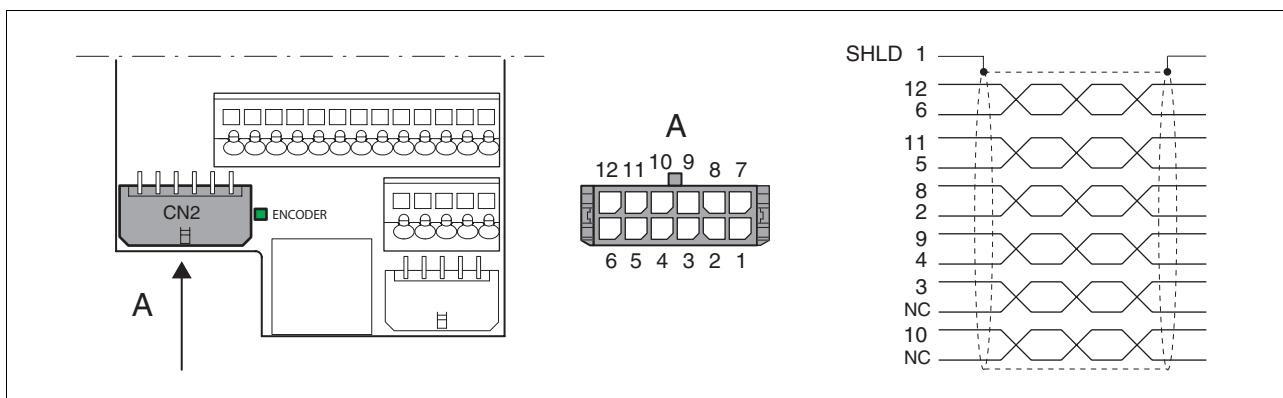

Figure 6.14 Wiring diagram rotation monitoring
- ▶ (1) Strip the cable jacket, length A.
- ▶ (2) Slide the shield braiding back over the cable jacket. The shield drain wire is required as connection.
- ▶ (3) The wire with the color blue/red is not required and may be cut. Insulate the shield drain wire with heat shrink tube.
- ▶ (4) Crimp the contacts to the remaining wires and to the insulated shield drain wire. Insulate the shield braiding with heat shrink tube. Plug the crimp contacts into the connector housing; see Figure 6.14 for the pin assignment.
- ▶ (5) Strip the cable jacket to length C at the position shown; at this point, the cable is fastened to the EMC plate with a clamp (shield to ground connection).